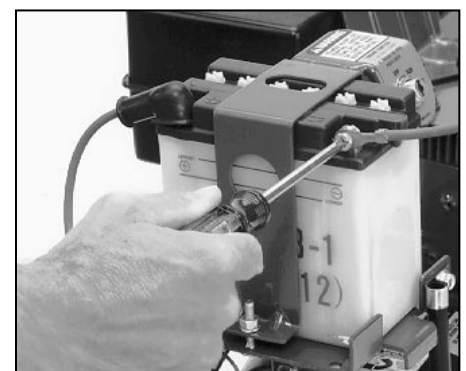

Figure 2-19: Attach negative (-) battery cable.
3. The negative battery cable is connected to the upper mounting screw that attaches the starter solenoid to the back of the battery post. This is the ground for the negative cable. Using the second screw and nut, attach the loose end of the cable to the negative (-) battery post. See Figure 2-19.